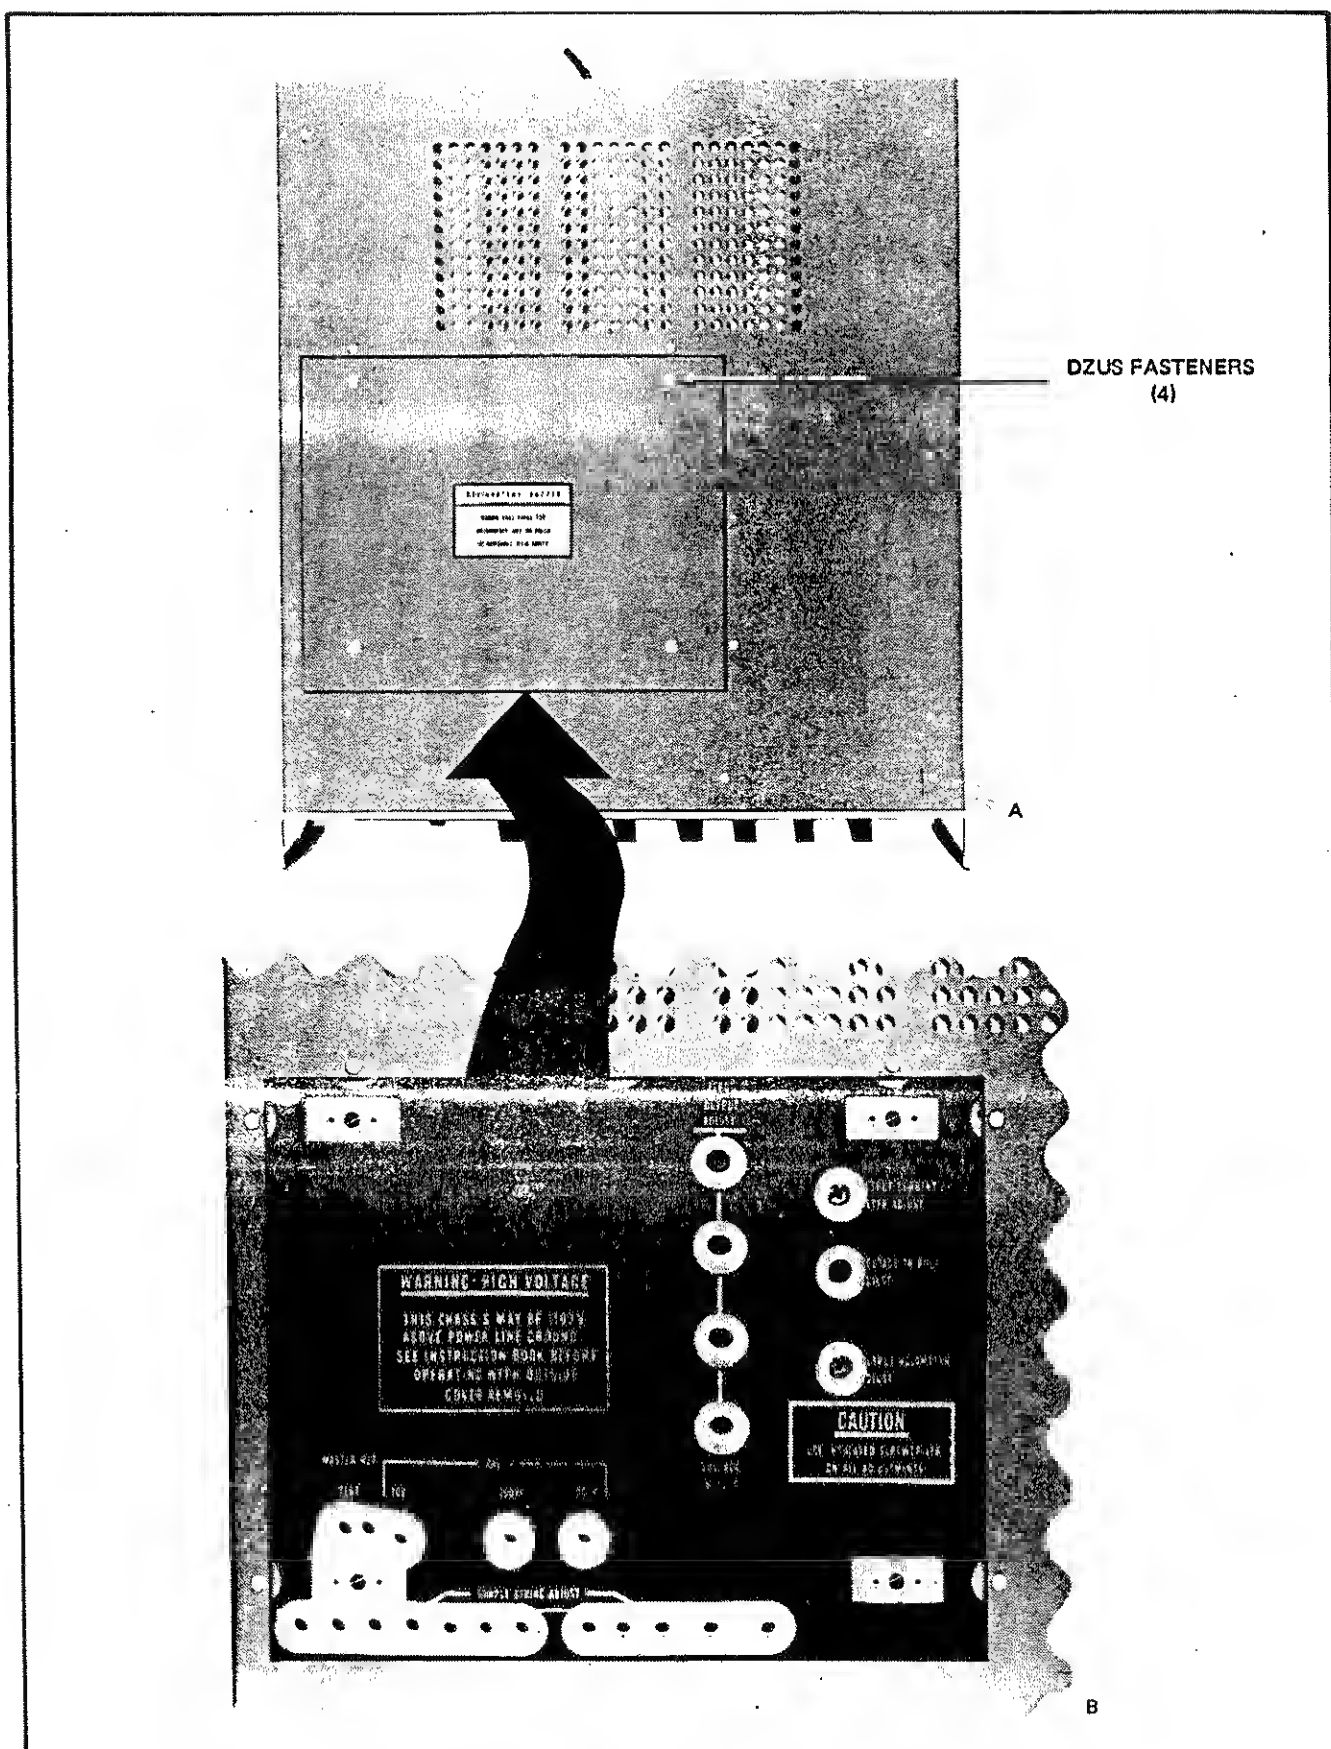

Figure 4-1. CALIBRATION ACCESS PANEL, INSTALLED (A) AND REMOVED (B)
- c. Unfasten four Dzus fasteners on calibration access panel on top cover and lift off top calibration access panel. See Figure 4-1.